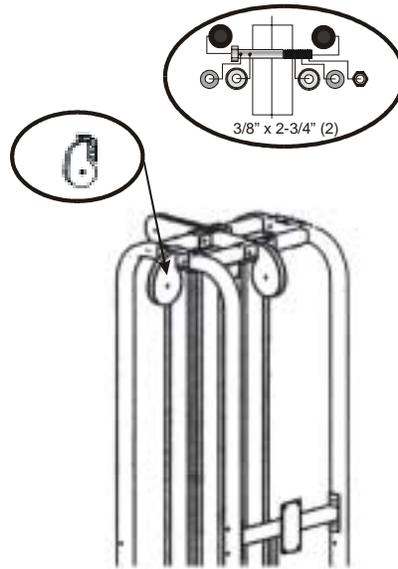
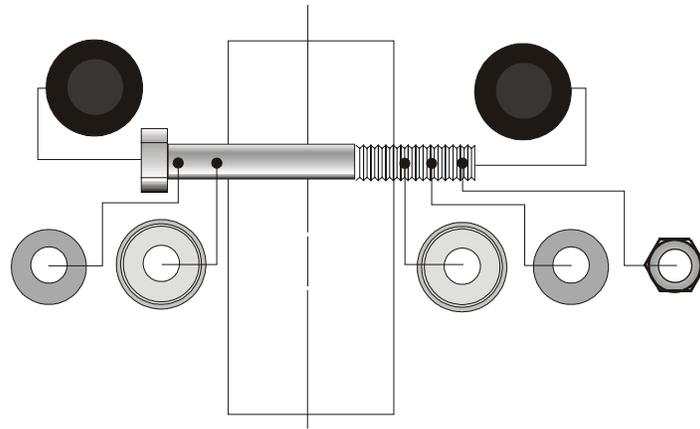

Figure 4. Bolt on the teardrop pulley.
Figure 5. Configuration for 2-3/4" and 3" bolts.
2. **Bolt on the teardrop pulley** above the bench (see Figure 4) on the 4 stack cell using two $3/8'' \times 2-3/4''$ hex head bolts. Include the $3/8''$ flat washer, end cap washers, end caps and $3/8''$ Nyloc nut. Use the bolt configuration shown in Figure 5. You may wish to use a pinch bar to align the bolt holes.
Hardware Figure 5. Top assemblies.